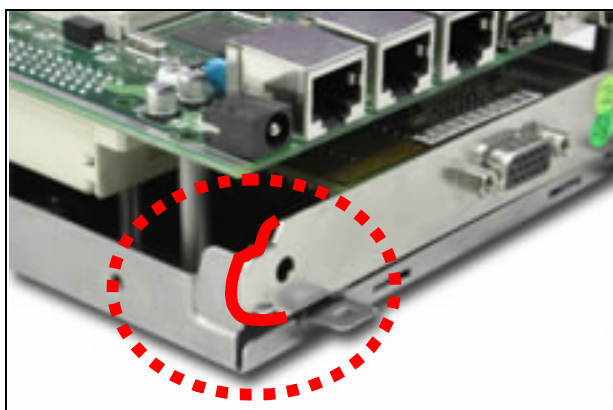

Fig. 2-36 The PCI card's bracket tip is placed outside of the chassis corner
4. The metal tip of the PCI card's bracket should be placed outside of the chassis corner (*Fig. 2-36*).